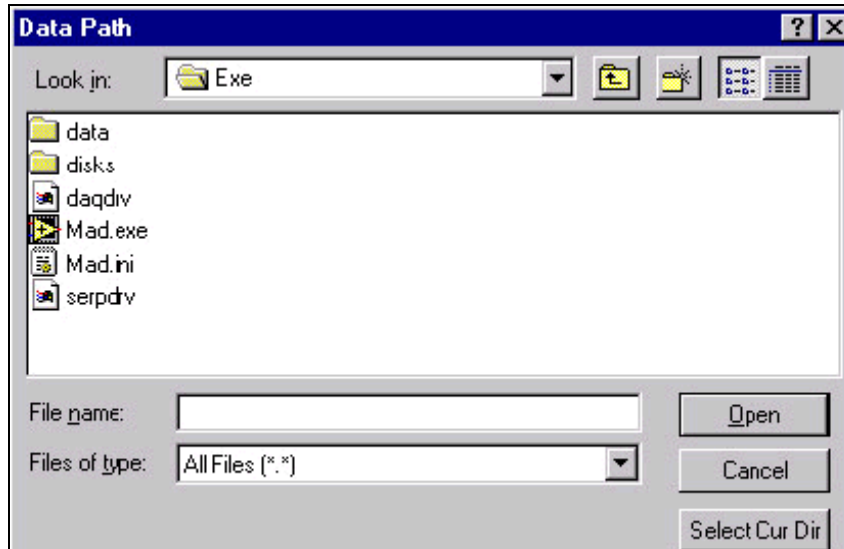

Figure 3. Set data path here.
| Figure 3. Empty file warning. | 3 |
3. If you already know the data path, type it into the "Data Path" field. If not, click on the **List** button. This opens a navigational dialog box (see Figure 3).